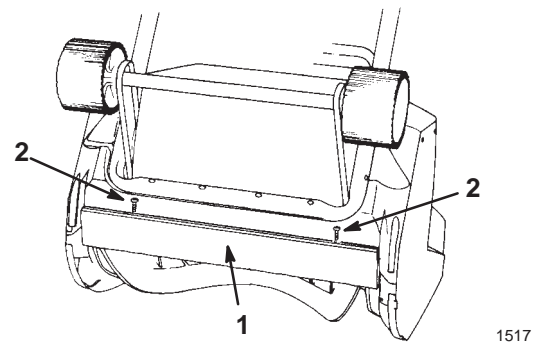

Figure 12
The scraper is located at the bottom of the rotor housing as shown in Figure 12.
1. Remove the two screws that secure the scraper to the snowthrower (Fig. 12).